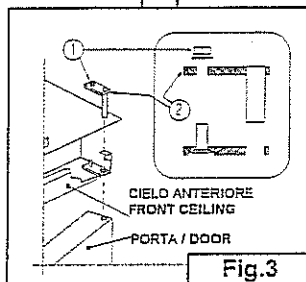

Fig.3
-Per estrarre la porta (Fig.3) ,togliere il dado Pos.1, e la piastra Pos.2
-To remove the door from its housing (Fig.3) , unscrew the bolt Pos. 1 and remove the plate Pos. 2.